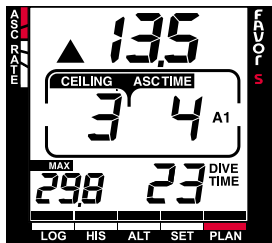

Fig. 3.13 DECOMPRESSION DIVE, BELOW THE CEILING ZONE
- the no-decompression dive turns into a decompression dive. One arrow pointing upwards and the ascend warning CEILING/ASC TIME will appear together with an audible alarm: three single beeps. (Fig. 3.13).
When your NO DEC TIME becomes zero, your dive becomes a decompression dive, i.e. you must perform one or several decompression stops on your way to the surface. The NO DEC TIME on your display will be replaced by a flashing notation CEILING/ ASC TIME (Fig. 3.13).
The CEILING/ASC TIME symbol and upwards pointing arrow indicate that you are below the ceiling zone (Fig. 3.13). You should start your ascent immediately.